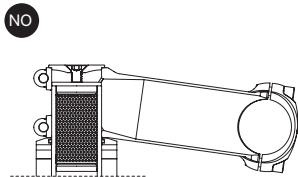

Fig. 5.2.3
**IMPORTANT:** If the stem clamp closes on an area where the expander is not present, it will tend to ovalize and cut the carbon fork steerer, causing serious accidents for the user. In fact, the steerer could suddenly break under stress! (Fig. 5.2.3)